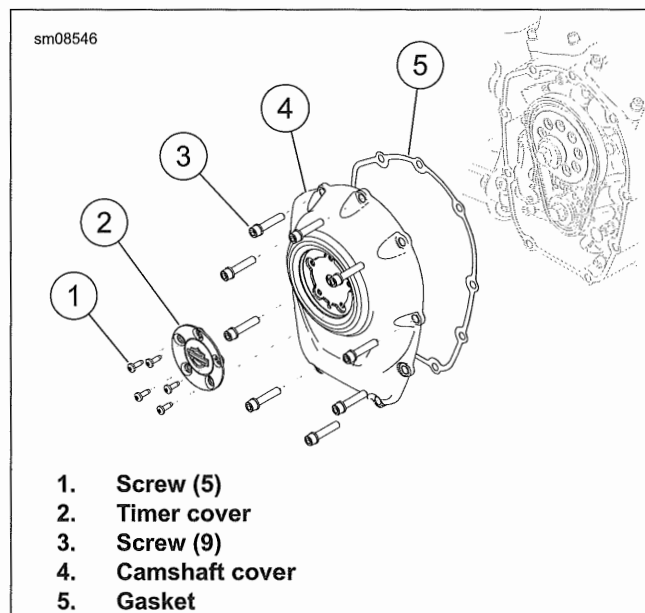
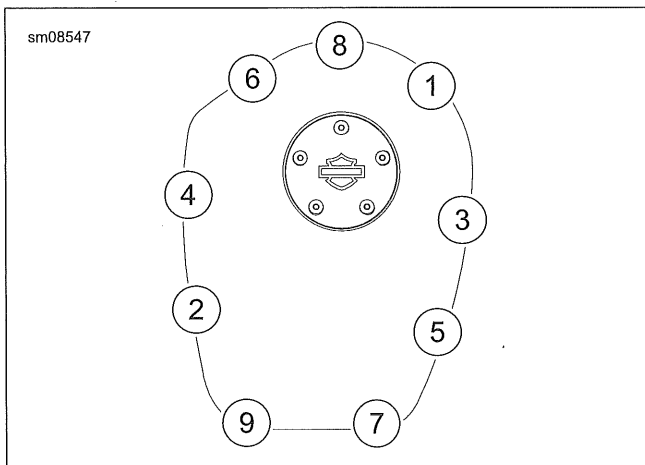

Figure 4-47. Camshaft Cover
Figure 4-48. Cam Cover Tightening Sequence
1. See Figure 4-47. Remove camshaft cover.
- a. Remove screws (3).
- b. Remove camshaft cover (4).
- c. Discard gasket (5).
1. See Figure 4-47. Install camshaft cover.
- a. Install **new** gasket (5).
- b. Install camshaft cover (4).
- c. Install screws (3). Hand tighten.
- d. See Figure 4-48. Tighten screws in the sequence shown.
2. See Figure 4-47. Install timer cover, if removed.
- a. Install timer cover (2).
- b. Install screws (1). Tighten.